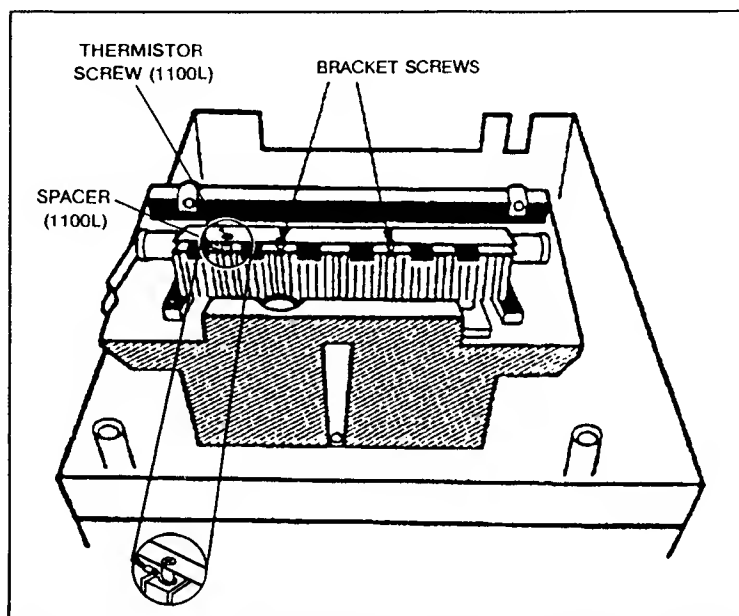

Figure 6-19. Printbar Cable Routing Bracket and Thermistor Screws
- c. Remove the two screws (#1 pozidrive) which secure the hammer driver cable/bracket (see Figure 6-19).